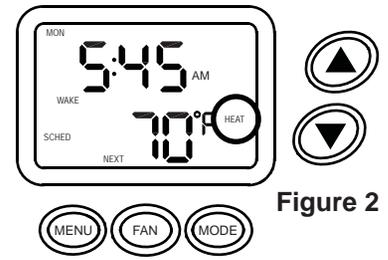

Figure 2
- 4. **PRESS** the FAN button to continue. Setpoint temperature and HEAT or COOL will appear on the display (Figure 2).